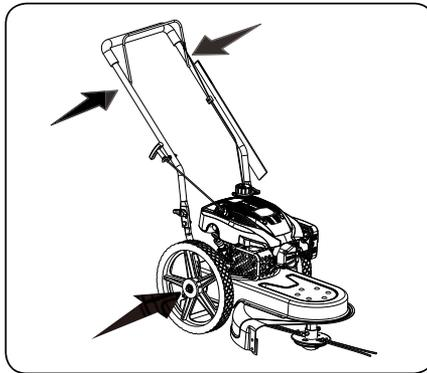

Figure 6-1.
1. Lubricate pivot points on the control lever at least once a season with light oil. This control must operate freely in both directions. See Figure 6-1.
2. Lubricate the wheels at least once a season with light oil (or motor oil). If wheels are removed for any reason, lubricate surface of the axle bolt and inner surface of the wheel with light oil. See Figure 6-1.